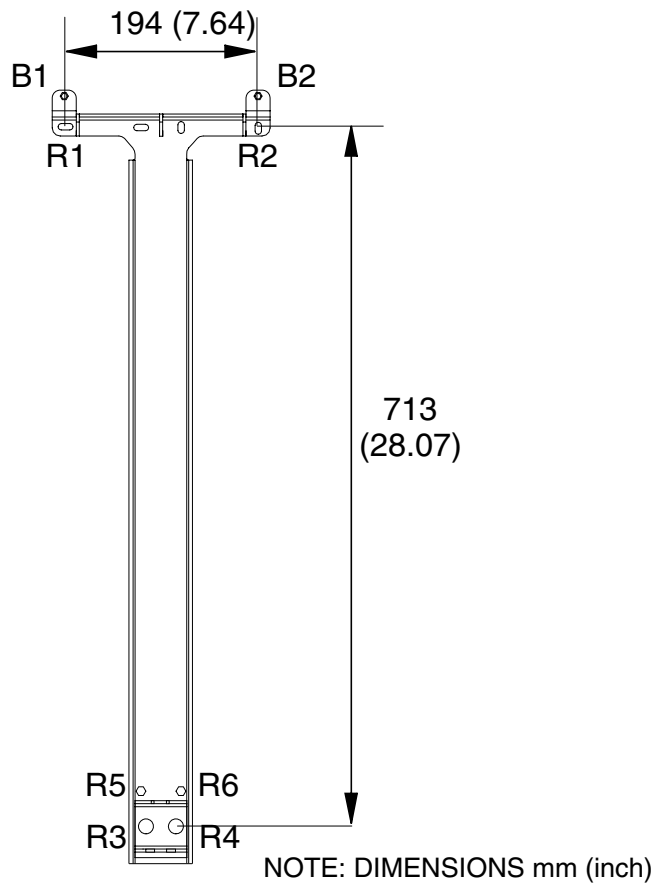

Figure 5. Mounting rack dimensions and screw holes
The mounting rack is used in both wall and pole installations to provide a fixing base for the Nokia MetroSite EDGE Base Station. The dimensions of the mounting rack are presented in Figure 5. Screw holes R1, R2, R3, R4, R5, and R6 are for fixing the mounting rack onto the wall or the pole bracket. Screw holes B1 and B2 are used for fixing the BTS to the mounting rack.
3. Mark the fixing points on the wall for the upper screw holes of the mounting rack (R1 and R2, see Figure 5). For example, use a centre punch through the template to mark the fixing points.